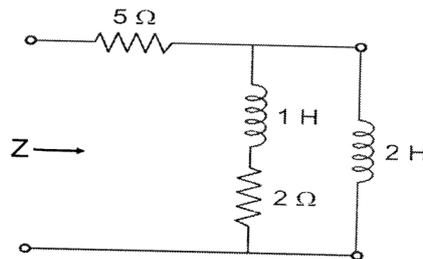

Fig. No.7
- Q8) a) Draw pole-zero plot of the driving point impedance of the network shown in Fig. No.7. [9]